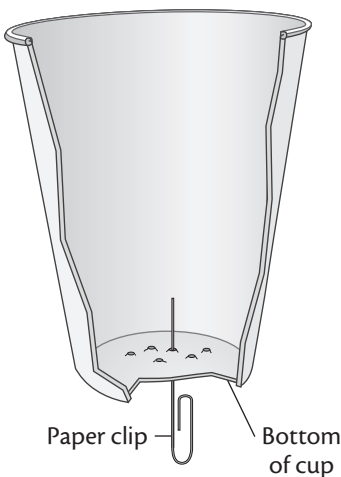

Figure 3 Preparing a disposable cup.
- Using a straightened paper clip, poke small holes in the bottom of a disposable cup. See Figure 3.